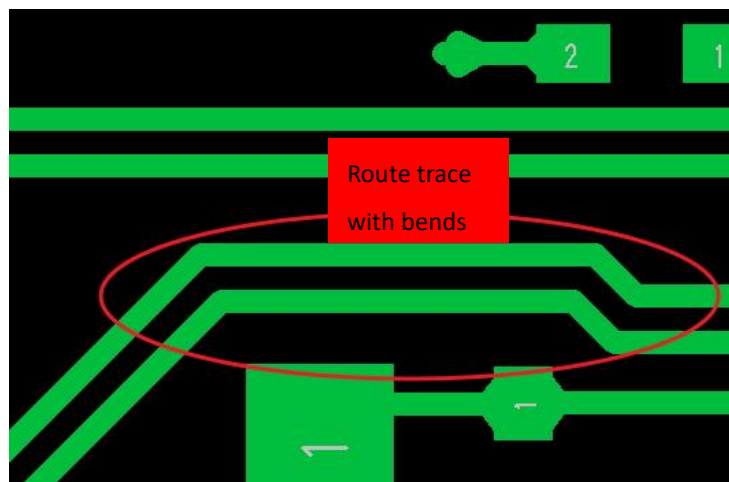

Figure 1
- It is recommended to straight route USB differential pair and less route them with bends as figure 1.